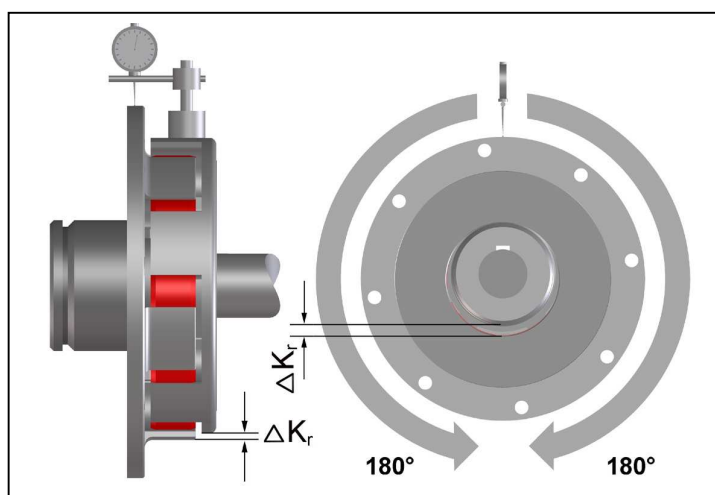

Fig. 7
- Measure one complete revolution (360°). Determine the largest deviation $Kr1$ and the smallest deviation $Kr2$ (Fig. 7). Calculate the radial misalignment: $\Delta Kr = 0,5 \times (Kr1 - Kr2)$. Observe the preceding sign of the measured values.